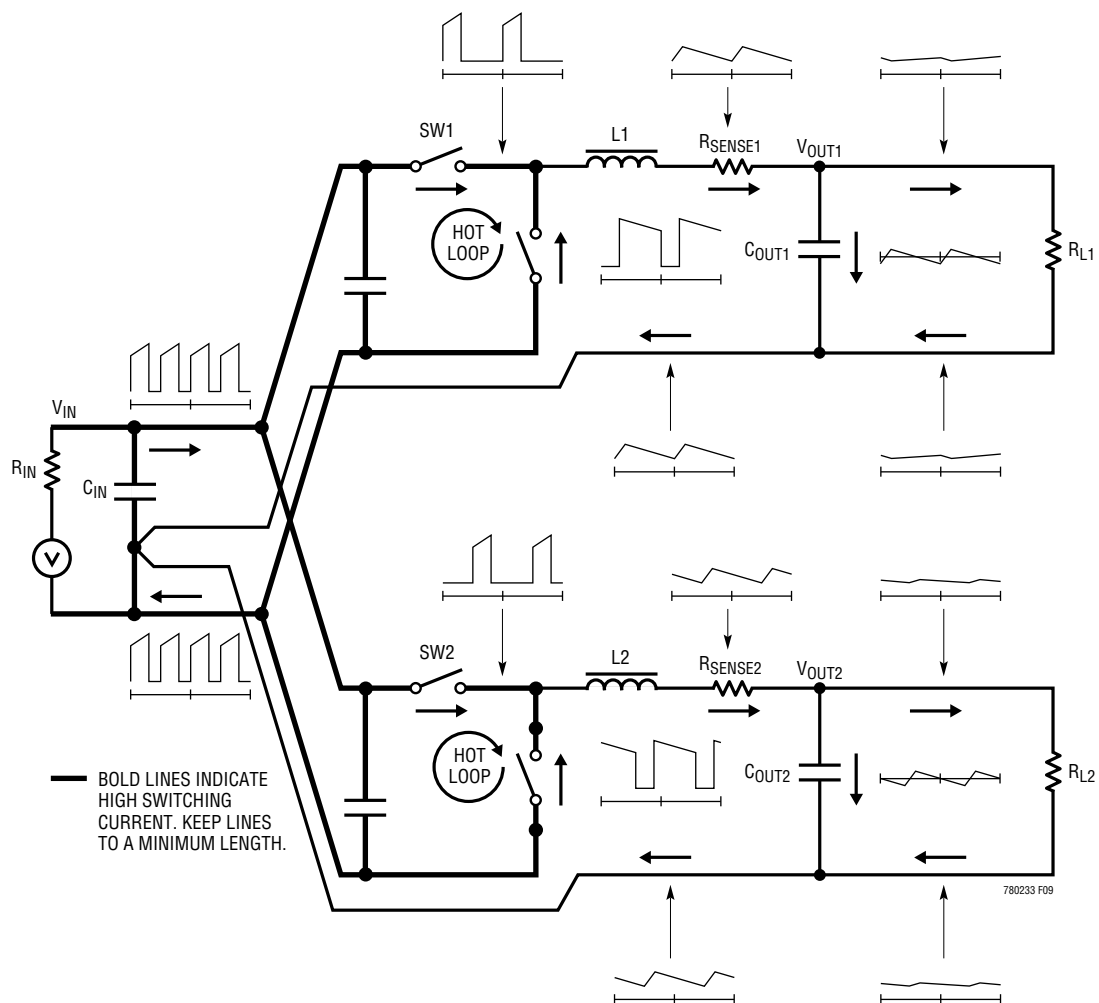

Figure 8. Branch Current Waveforms
When laying out the printed circuit board, the following checklist should be used to ensure proper operation of the IC. Figure 8 illustrates the current waveforms present in the various branches of the synchronous regulators operating in the continuous mode. Check the following in your layout:
- Are the signal and power grounds kept separate? The combined IC ground pin and the ground return of $C_{INTV_{CC}}$ must return to the combined C_{OUT} (–) terminals. The area of the "hot loop" formed by the top N-channel MOSFET, bottom N-channel MOSFET and the high frequency (ceramic) input capacitors, as shown in Figure 8, should be minimized with short leads, planar connections, and multiple paralleled vias where needed. The output capacitor (–) terminals should be connected as close as possible to the (–) terminals of the input capacitor.